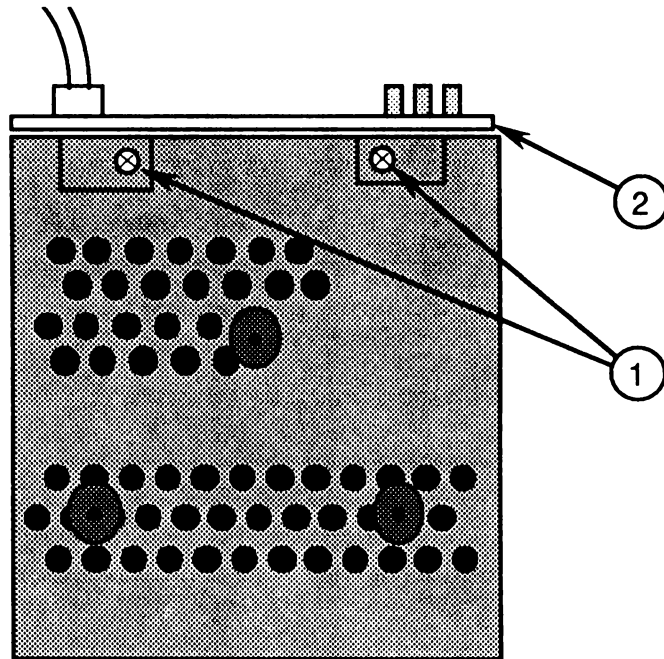

FIGURE 31
8. Turn the main logic PCB over, and remove the two screws (Figure 31, #1) from the bottom of the metal frame.
9. Pull the rear panel (Figure 31, #2), along with the AC cord and power supply board, away from the monitor.
3. Replace the two screws (Figure 31, #1) to secure the rear panel to the bottom of the metal chassis.